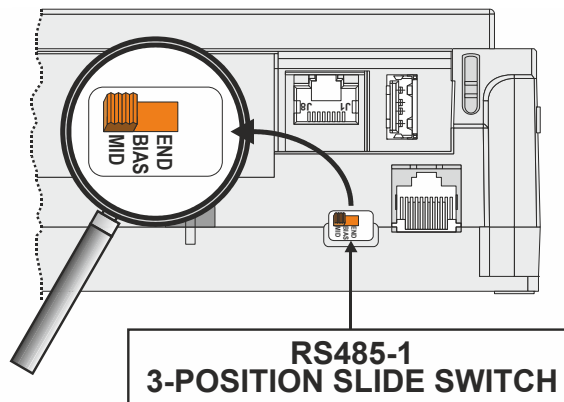

Fig. 2. RS485-1 three-position slide switch
- RS485-1 (consisting of push-in terminals 24 [GND-1], 25, and 26) is isolated and can be used for BACnet MS/TP bus, Panel Bus, or Modbus RTU Master communication. The RS485-1 interface provides a switch for termination and bias selection. See Fig. 2 below.